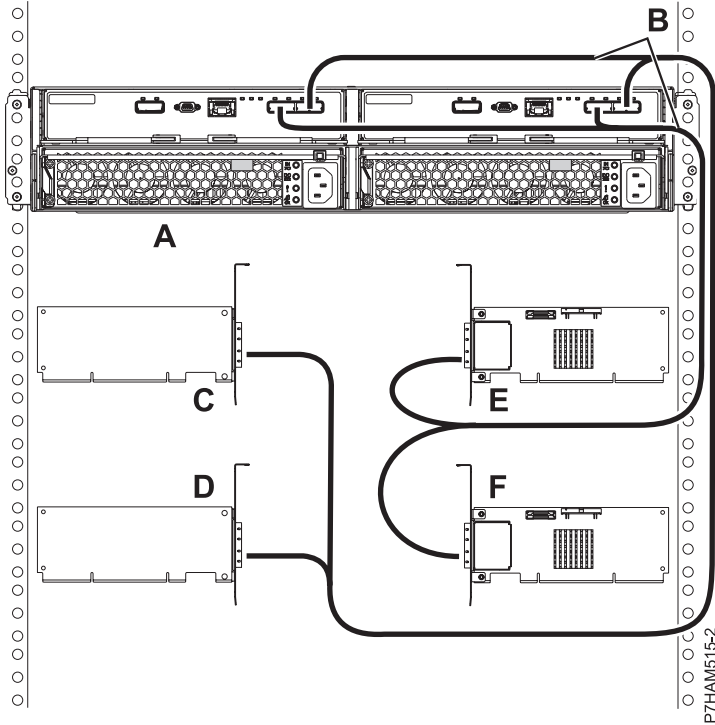

Figure 42. Mode 4 connection of one 5887 disk drive enclosure by using X cables to four independent SAS adapters
19. Perform the mode 4 connection of one enclosure (A) by using X cables (B) to four independent SAS adapters. See Figure 42 on page 42.